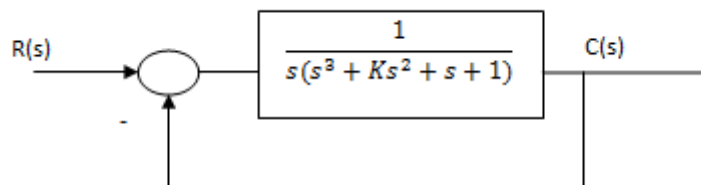

Figure 5
12) For the system shown in Figure 5, **show that the closed loop system is unstable for all values of K.**